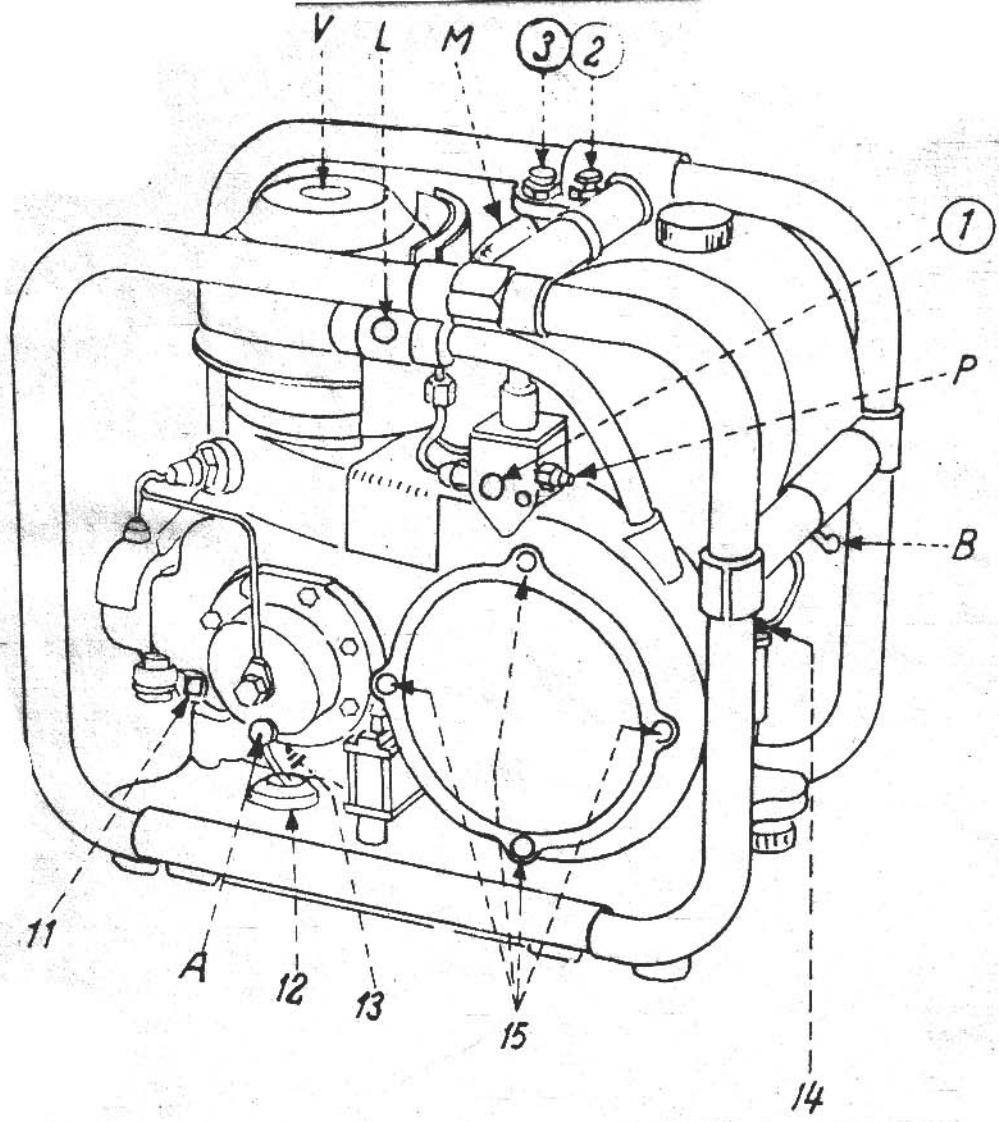

Fig. 2
Unscrew the drainer (A), see fig. 2, a couple of turns and then screw it up again.
2. Unscrew the float screw (14), see fig. 2.
5. Tighten up the float screw (14), not forgetting the packing ring.
1. Loosen the four fixing screws (15), see fig. 2.